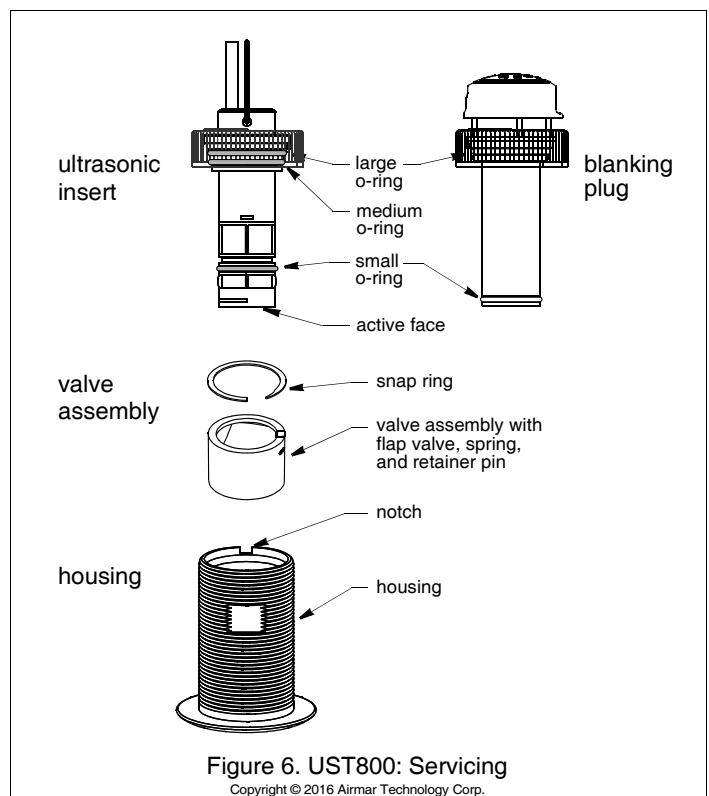

Figure 6. UST800: Servicing
5. The o-rings must be intact and well lubricated to make a watertight seal. After the marine sealant cures, inspect the o-rings on the ultrasonic insert (replace if necessary) and lubricate them with the silicone lubricant supplied (Figure 6 or 7).
The o-rings must be intact and well lubricated to make a watertight seal. Inspect the o-rings (replace if necessary) and lubricate them with the silicone lubricant supplied or petroleum jelly (Figure 6 or 7).
2. Grasp the pull ring and remove the ultrasonic insert with a slow pulling motion (Figure 6).
3. Slide the blanking plug into the housing (Figure 6). Seat it into place with a pushing twisting motion until the key fits into the notch. Screw the cap nut in place. **Hand tighten** only. Do not over tighten.
Aquatic growth will seriously affect the performance of the ultrasonic insert. Clean the active face with a dull putty knife, being careful to avoid scratching the surface (Figure 6 or 7). If fouling is severe, lightly wet sand the active face with fine grade (#320) wet/dry paper.
O-rings must be free of abrasions and cuts to ensure a watertight seal. Install the o-rings on the ultrasonic insert as shown (Figure 6 or 7). The remaining o-rings are placed in similar positions on the blanking plug.
1. The o-rings must be intact and well lubricated to make a watertight seal. On the blanking plug, inspect (replace if necessary) and lubricate the o-rings with silicone lubricant or petroleum jelly (Figure 6).
3. Remove the snap ring from the valve assembly using a screwdriver to pry the end of the ring free (Figure 6).
6. Clean, repair, or replace the valve assembly so the flap valve moves freely and seats against the valve housing (Figure 6).